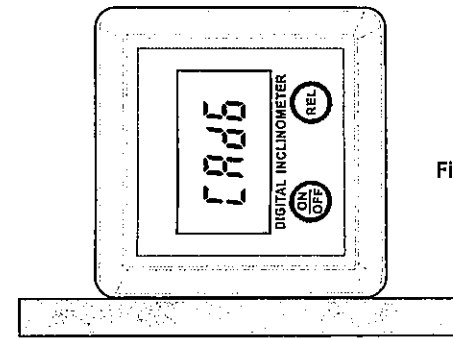

Figure 13
- Wait until the number "6" of the displayed "CA d 6" flashes, then rotate the instrument by 180° along the horizontal axis so that the instrument's front panel faces you as indicated in Figure 13. Press the "REL" key once. The display shows "CA d 7".